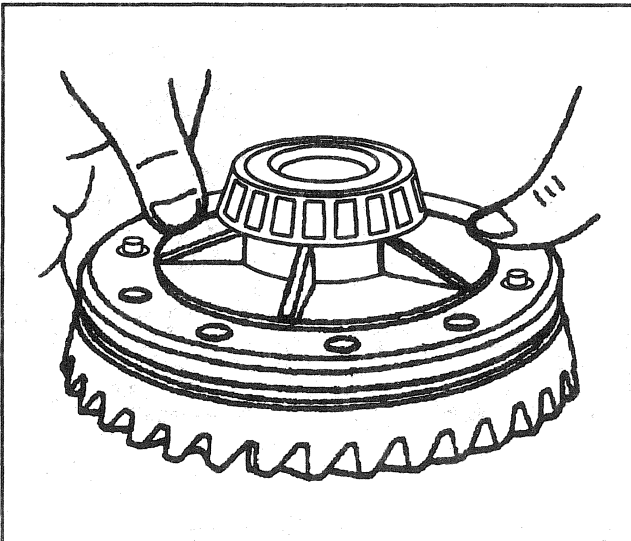

Figure 18—Aligning the Ring Gear Studs
- 1. Side gear thrust washers (19) to the side gears (22).
- 2. Side gears (22) to the differential case (24).
- 3. Pinion gears (21) to the differential without the thrust washers (20).
- 4. Pinion thrust washers (20).
- 5. Ring gear (7) to the differential case (24).
- A. Thread two left-hand threaded studs into the ring gear on opposite sides (Figure 18).